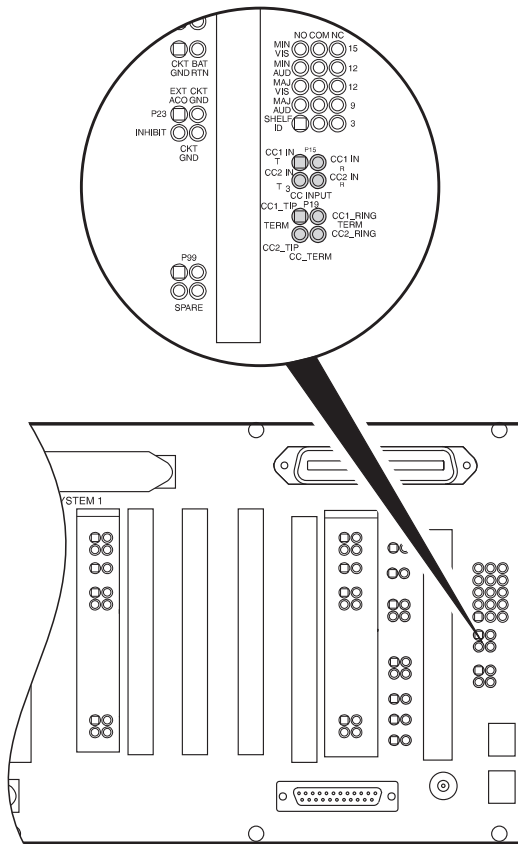

Figure 8. Connecting the Composite Clock and Alarms
8.5 Composite Clock. When required for digital service, connect the composite clock (Figure 8):
- 2 Wire-wrap a 130 to 135 Ω resistor on the CC_TERM_CC1_IN_TIP and CC_TERM_CC1_IN_RING pins to terminate clock 1 (Figure 8).
8.6 Alarms. If external audible and/or visual alarm indications are required, connect the audible and visual alarm leads from the CO alarm panel to the COT alarm contacts on PG-Flex (Figure 8).